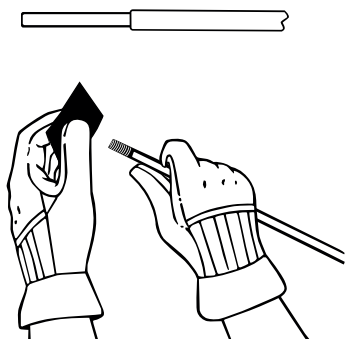

Fig. 1
2. Use emery cloth provided to roughen surface of fi fiberglass core end (Fig. 1). Do not remove large amounts of material during sanding.